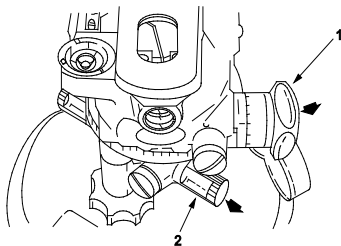

Figure 3. Aiming Circle Additional Azimuth Control Functions.
1. For fast azimuth traversing of elbow telescope, pull and hold azimuth knob (Figure 3, Item 1) in direction of the arrow labeled with a number 1. By hand, turn main housing to desired azimuth. Release azimuth knob and turn azimuth knob for normal operation.
2. For fast azimuth traversing of Aiming Circle, open covers on both orienting knobs (Figure 3, Item 1) and (Figure 3, Item 2), pull and hold orienting knob in direction of arrow labeled with a number 2. By hand, turn Aiming Circle to desired azimuth. Release orienting knob. Either orienting knob can be turned for normal operation. Close both covers.